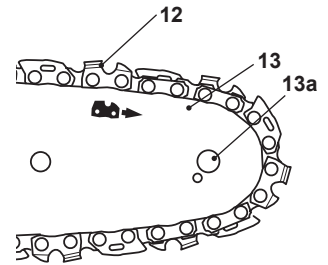

Fig. 4
7. The saw chain movement is as indicated by the arrow. Make sure the saw chain (12) is properly placed over the sprocket wheel (13a) of the guide bar (13) (Fig. 4).